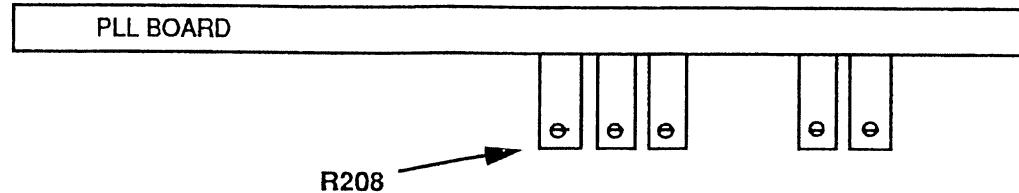

Figure 4-15. R208 Locator
3. Use the Knob to step between the sine and square waves. Slide the cover back. Adjust R208 on the PLL board (see figure 4-15) until the peak to peak amplitude of the sine wave matches the peak to peak amplitude of the square wave. Slide the cover back on.